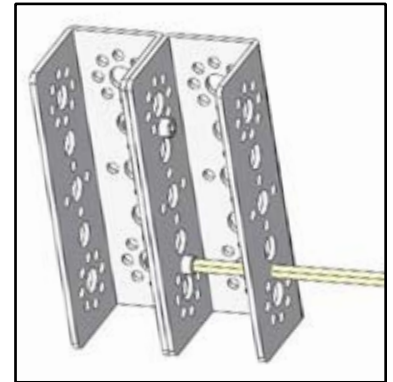

Figure D8
3) Connect two channel pieces (the model shown uses 96 mm channels, but different sizes can be used depending on how high you need the gripper to be) side by side with at least four SHCSs and kep nuts – two on each end (Figure D8).